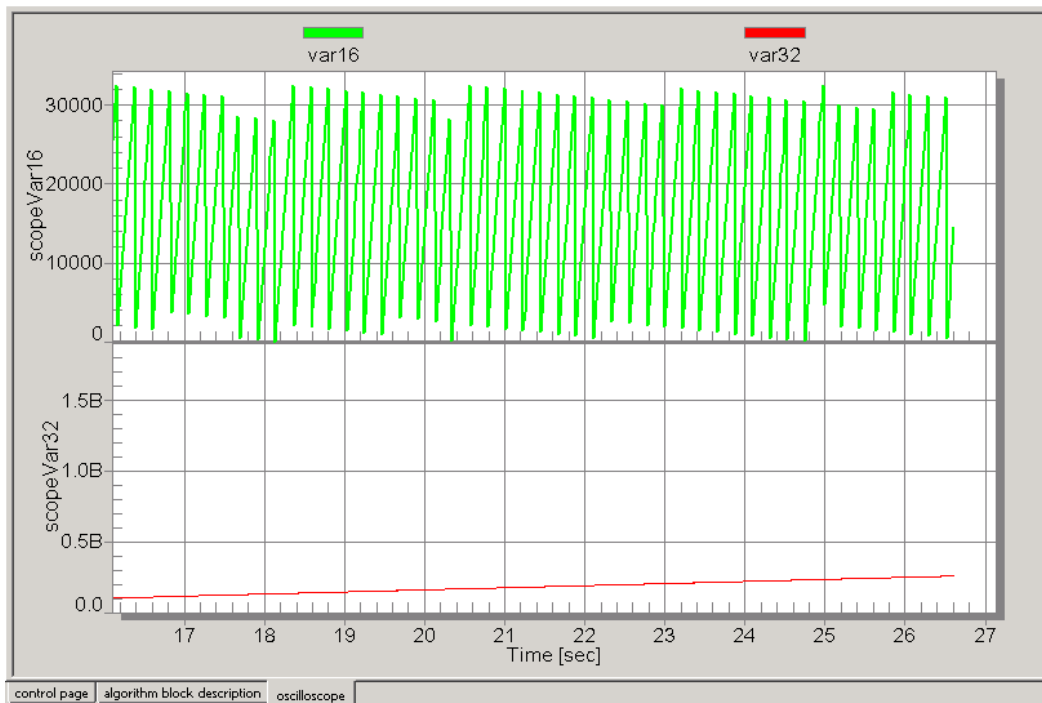

**Figure 4-7. Scope Properties - Set-up Page**
The *Setup* page (Figure 4-7) is used to assign variables to be displayed on the oscilloscope chart. Up to eight *Chart vars* (seven in X-Y mode) may be selected for display in the chart and assigned to a maximum of five Y-blocks. Select one of eight positions and browse for a variable in the drop-down list below the list to set or change a variable at this position. Select the first (empty) item in the drop-down list to clear the selected position in the list. Each chart variable is assigned to a Y block.
- *Assign vars to block* button = Assigns successive selected *Chart vars* to a Y block. Select the chart variables you want to group into one Y block and press this button. A simple assignment of two variables into two separate Y blocks is shown in Figure 4-7.